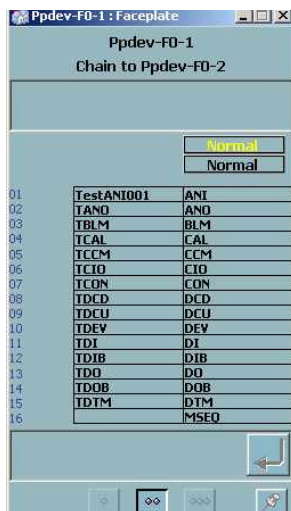

Figure 199. PDEV Module
**Pseudo Device (PDEV).** The Pseudo Device module faceplate represents a table of pseudo device names against a table of Controlware module types. The use of pseudo device names allows a phase CCL file to be written once using the pseudo device names so that it can be used for multiple trains of identical equipment. During phase execution, the selected pseudo device module will pull in the actual device data from the DEV module. The PDEV module reports up to 16 pseudo device names and 16 identically ordered Controlware module type identifiers, and alarm status used for display in the faceplate. Figure 199 shows the layout of the PDEV normal sized faceplate and its attributes.